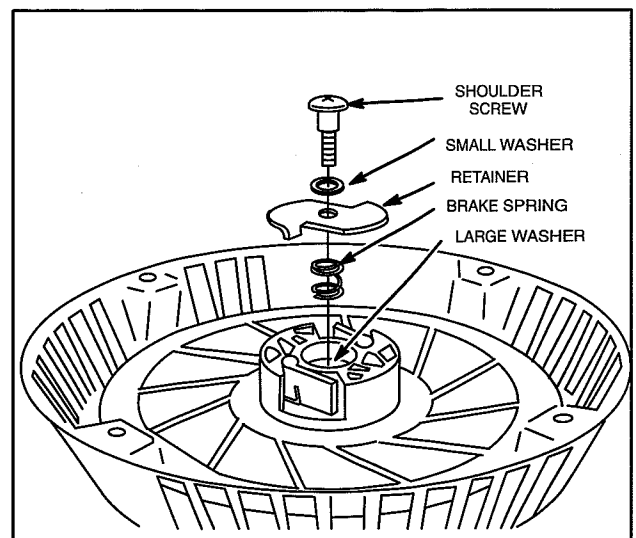

Fig. 16 – Remove Retainer – Early Style
2. Remove shoulder screw, small washer, retainer, brake spring and large washer, Fig. 16.